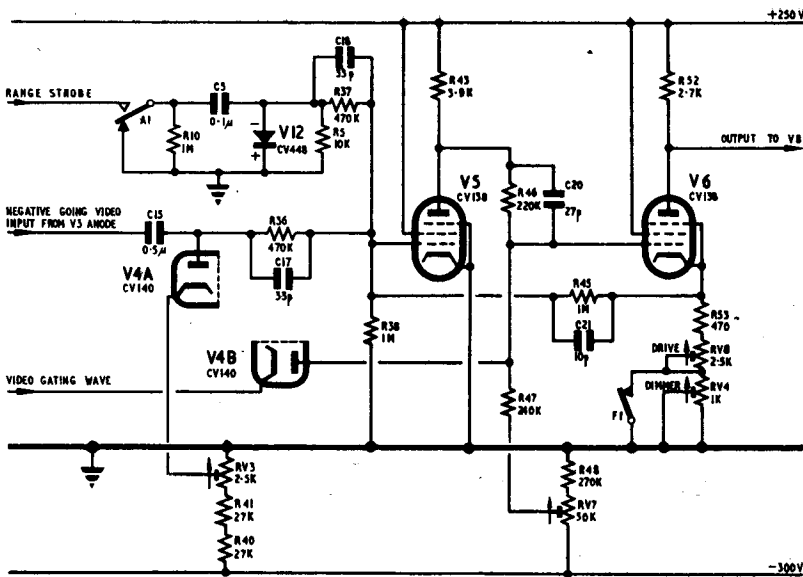

Fig. 6. Gating and limiting circuits
19. A simplified circuit diagram of the gating and limiting circuits is shown in fig. 6, from which metering resistors, etc., have been omitted for clarity. The circuit contains two pentodes V5 and V6 (CV138) and a double-diode V4 (CV140). V5 is the limiting valve, and V6 the gating valve.